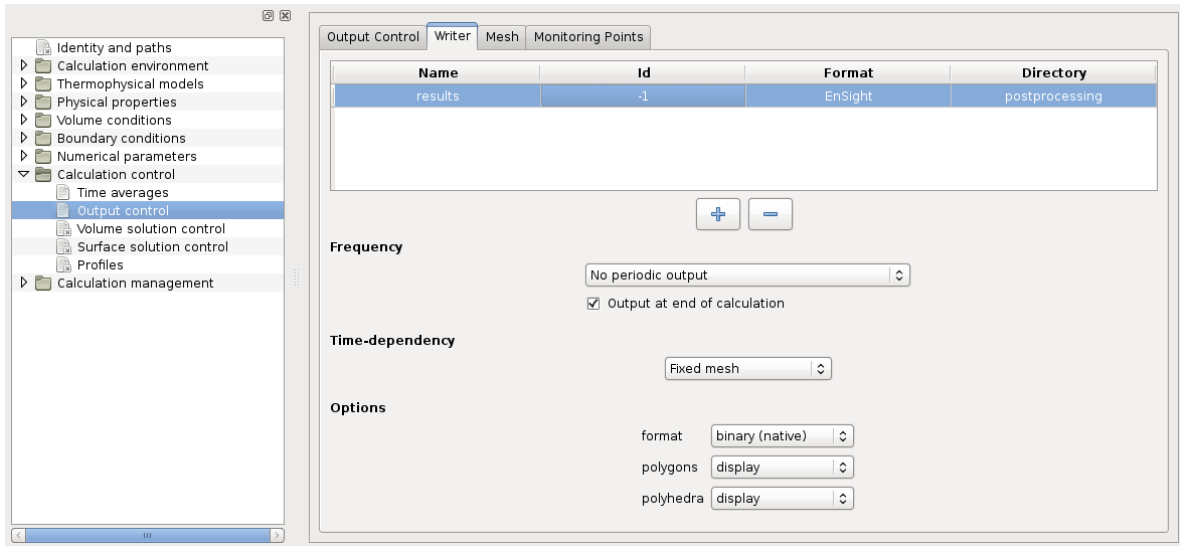
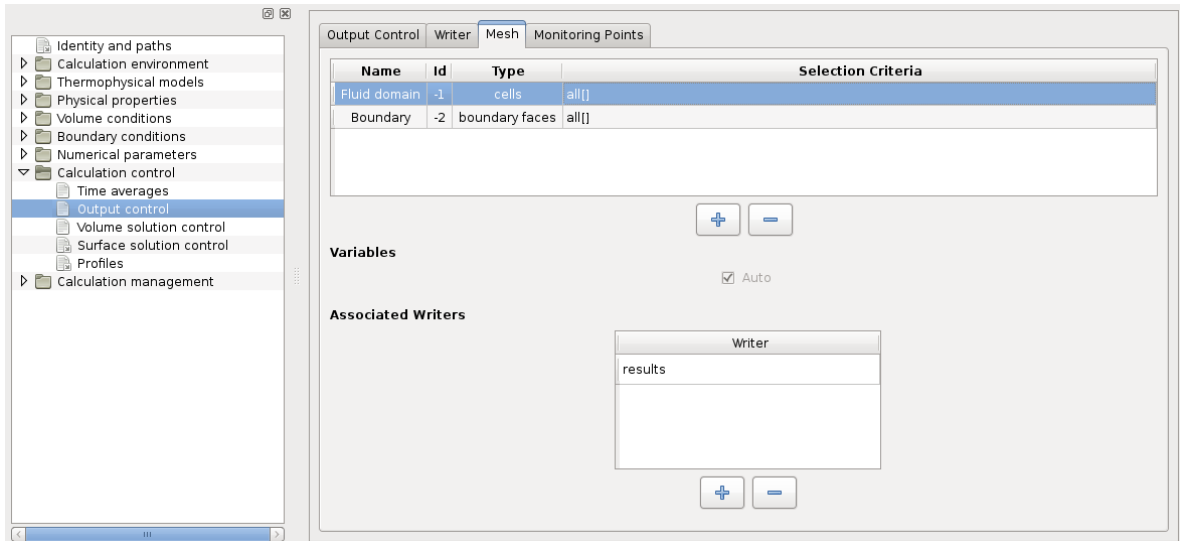
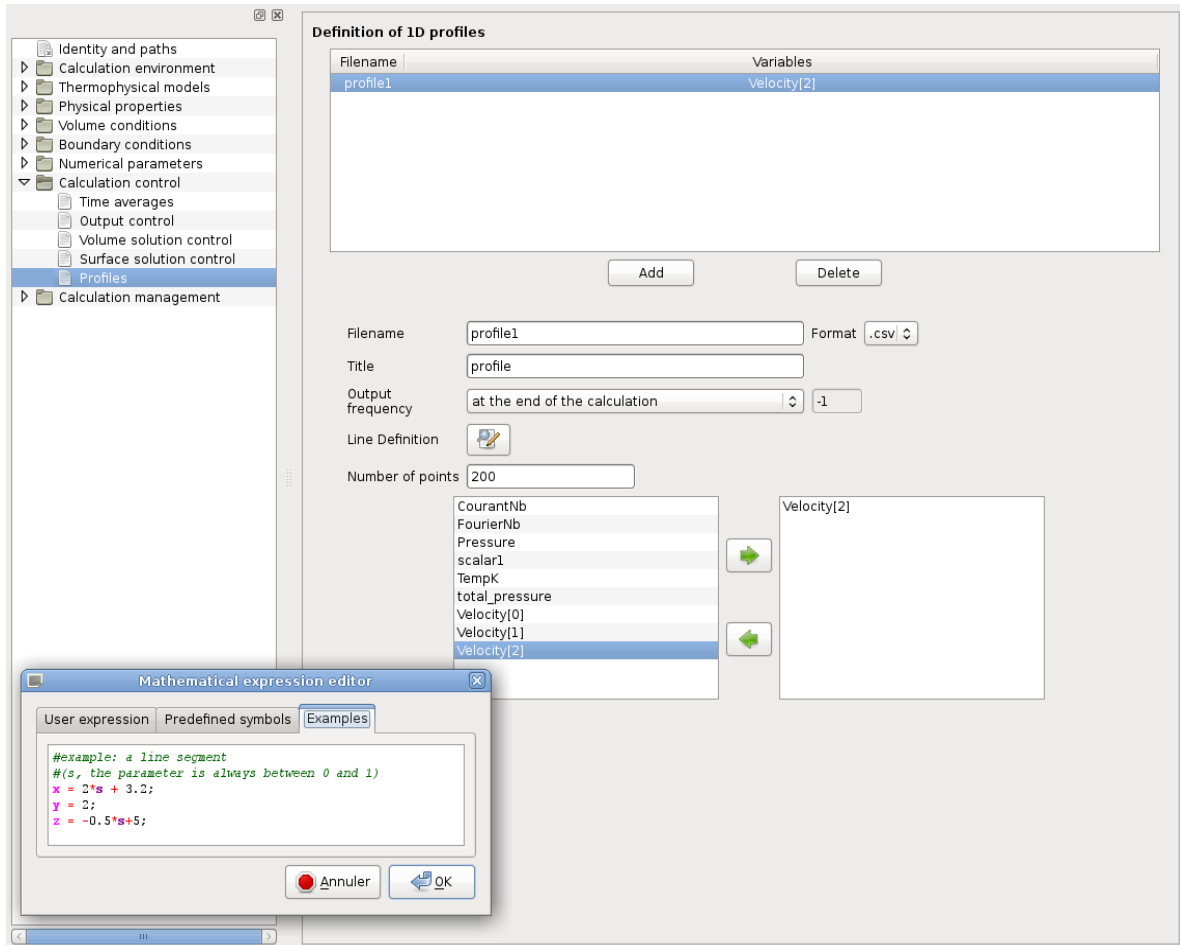

Figure 25: Management of postprocessing writers
Figure 26: Management of postprocessing meshes
Figure 27: Management of 1D profiles of the solution
- Calculation control: parameters related to the time averages, the locations of the probes where some variables will be monitored over time (if the GUI is not used, this information is specified in § 6.3), the definition of the frequency of the outputs in the calculation listing, the post-processing output writer frequency and format options, and the post-processing output meshes and variables selection, see Figure 23, Figure 24, Figure 25, and Figure 26. The item "Profiles" allows to save, with a frequency defined by the user, 1D profiles on a parametric curve defined by its equation, see Figure 27.